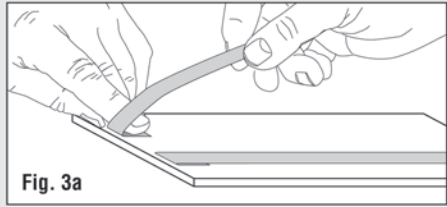

Fig. 3a
**TIP!** To make priming and painting loose Details easier, secure them to strips of masking tape (sticky side up) attached to a piece of cardboard (**Fig. 3a and 3b**).